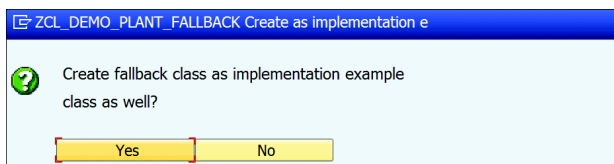

Figure 20.49 Fallback Class as Example Implementation
2. After you click the pencil icon, you'll be asked if the fallback class should be used as an example class (see Figure 20.49). This will allow other developers to understand how the methods should be implemented. If you want the fallback class to be used as an example, click **YES**; this will take you to Transaction SE24 to implement the class.